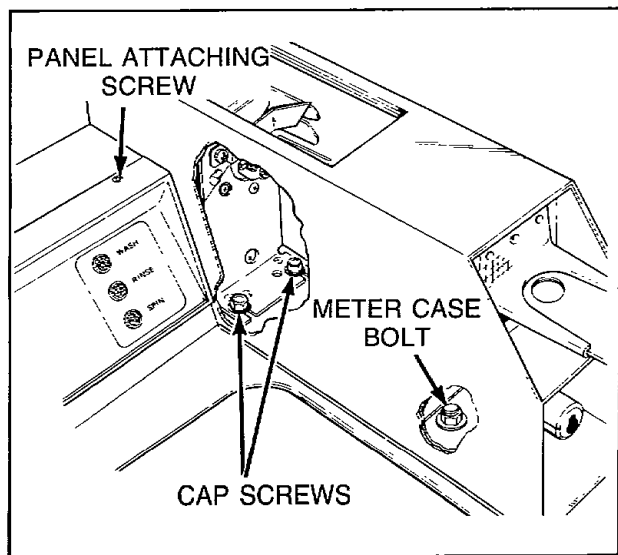

Figure 3
- b. Remove two timer bracket cap screws, *Figure 3* and pull timer bracket and timer up and out of meter case through service door opening as far as wires will permit.
- Remove two cap screws holding timer bracket to cabinet top, *Figure 3*.
- With loading door open, hold hand under front meter case bolt. Remove nut and lockwasher, *Figure 3*, and catch bolt and washers in hand.